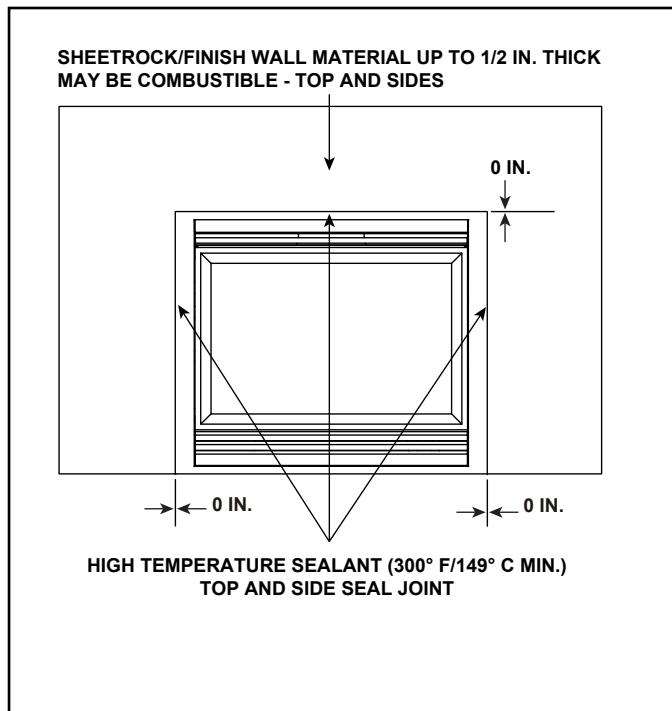

Figure 10.1 Noncombustible Facing Diagram
- Seal joints between the finished wall and appliance top and sides using a 300 °F minimum sealant. Refer to Figure 10.1.